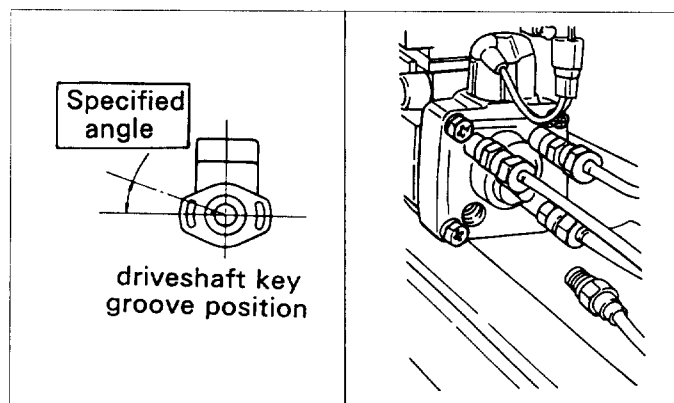

Fig.15-10 Confirming the correct camplate installation
2. To check for correct camplate position, remove the delivery valve from outlet "C", with feed pressure on, and the driveshaft rotated to a position where the keyway aligns with the mounting flange slot on the left side (viewed from the drive end) fuel will flow from the outlet. No fuel flow from outlet "C" means the camplate is installed 180 degrees out of time. (See Fig.15-10)